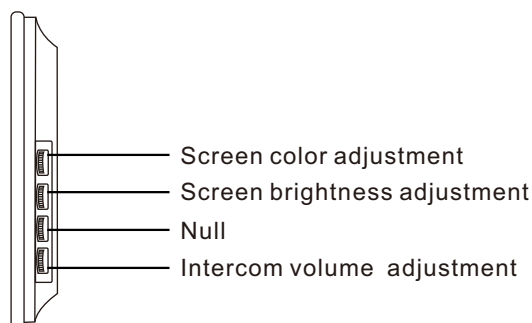

Figure 6
A.Rotary knob settings (refer to Page 3 – Figure 6)